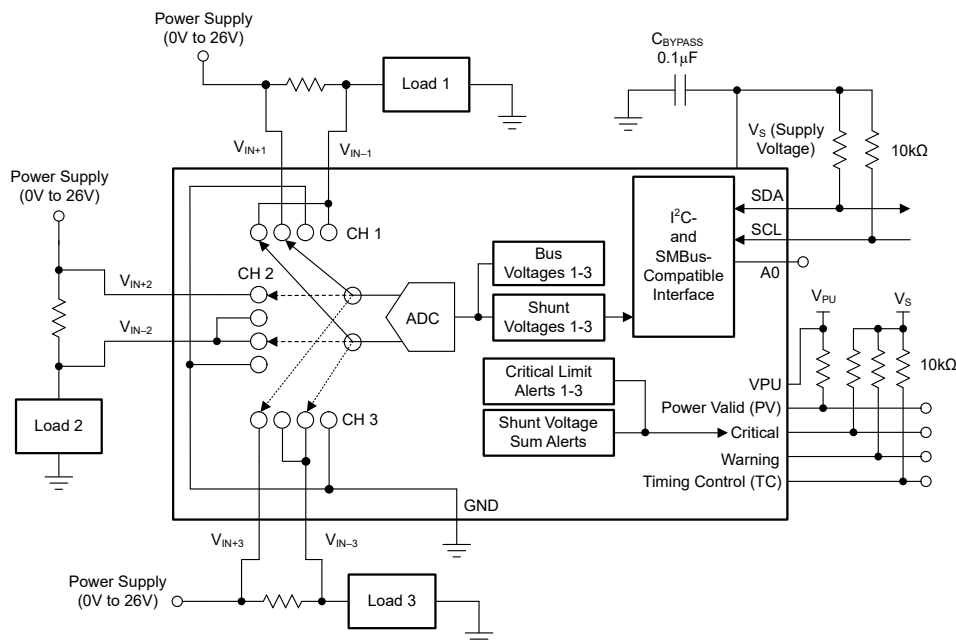

Figure 8-1. INA3221 as an Overcurrent Sensor
Figure 8-1 illustrates a typical INA3221 application circuit using all three channels. For best performance, use a 0.1µF ceramic capacitor for power-supply bypassing, placed as close as possible to the supply and ground pins. The digital pins (SCL, SDA, Critical, Warning, TC) are connected to supply through pull-up resistors. The power valid (PV) alert pin is connected to the VPU pin through a pull-up resistor to enable power-valid monitoring.